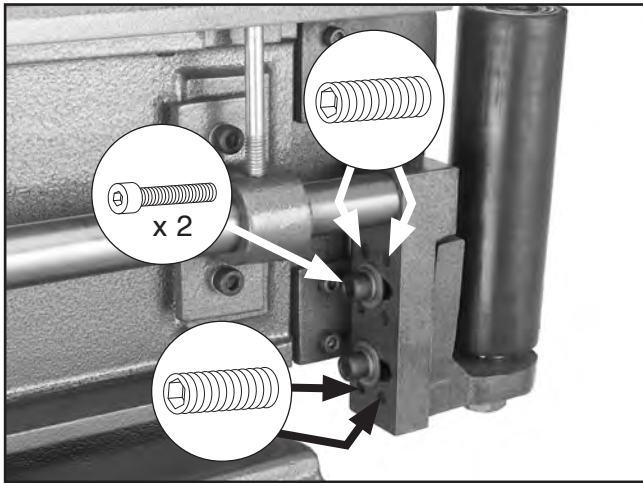

Figure 64. Location of belt parallelism adjustment screws.
- Loosen (2) cap screws shown in **Figure 64** approximately half a turn.
7. Adjust tracking set screws to adjust belt parallelism (see **Figure 64**).